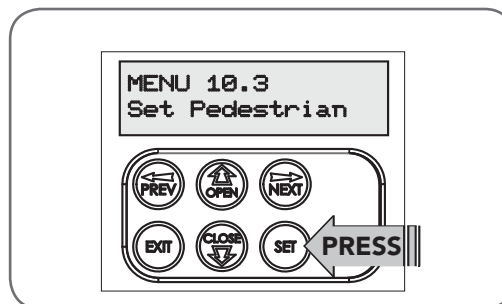

Fig 12.1
- Press SET to enter Set Pedestrian procedure (**Fig. 12.1**).